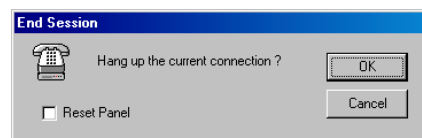

Figure 3: Reset Panel Checkbox
- Click the Reset Panel checkbox before clicking OK (see *Figure 3*).